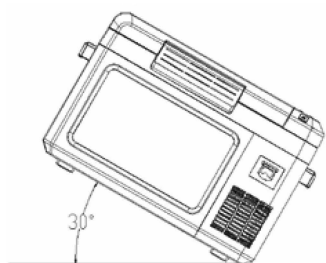

Fig. 1
a. As shown in Figure 1, when the tilt angle in the direction exceeds 30 degrees, turn off the compressor, the machine's buzzer will beep three times and the E0 alarm will flash. Once equalized, the display screen will restore the current temperature inside the box. After leveling for 3 minutes, the compressor restarts.